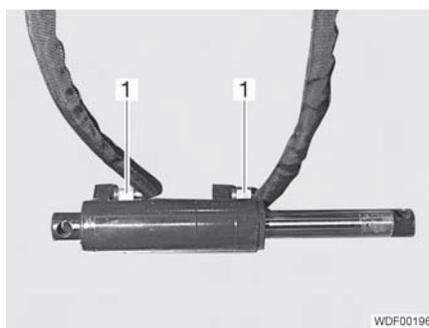

Fig. 218 Locking cylinder
- Unscrew and close off the hydraulic lines (Fig. 218,1).
- Screw the hydraulic lines (Fig. 218,1) onto the connections on the locking cylinder and tighten.